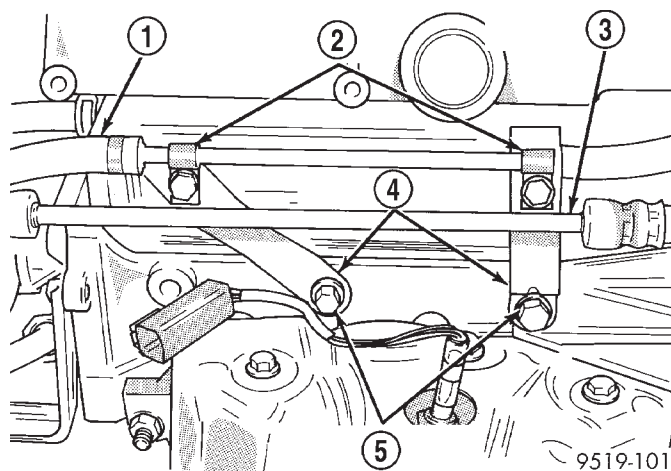

Fig. 4 2.5 Liter Power Steering Hose Routing
(4) Remove the 2 routing brackets (Fig. 4) attaching the power steering return hose to the power
steering pressure hose routing brackets. Then remove the 2 bolts attaching the power steering pressure hose routing brackets to the cylinder head (Fig. 4).
(5) Correctly route power steering pressure hose avoiding tight bends or kinking of the hose. Install power steering pressure hose routing brackets and attaching bolts on engine (Fig. 4).